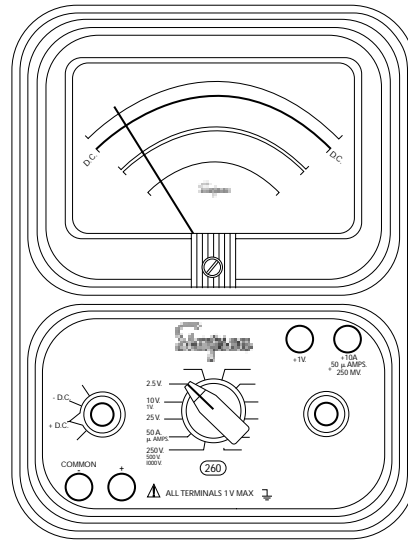

Figure 4-1. Jacks and Switch Positions for Measuring DC Voltages, 0 through 250V Ranges
- Set the function switch at +DC (Figure 4-1).